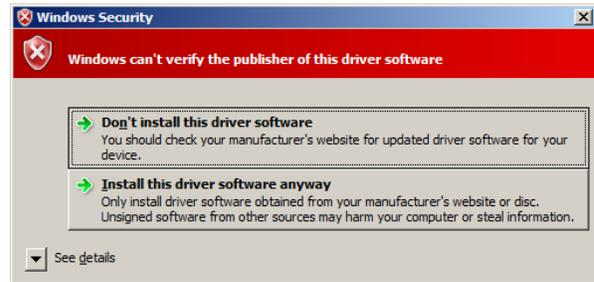

Figure 6: Accept security warning
7. If Windows raises a security flag similar to that in Figure 6, select 'Install this driver software anyway'.